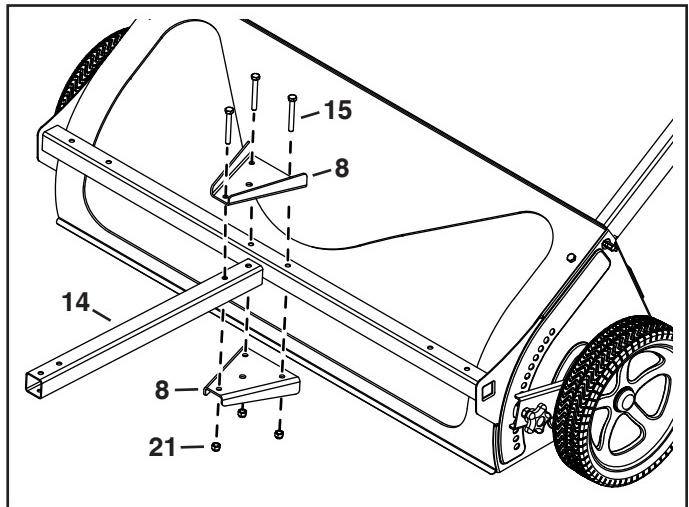

FIGURE 4
5. Attach the drawbar (14) to the sweeper by fastening a drawbar bracket (8) above and below the drawbar with three 5/16" x 2-1/2" hex bolts (15) and 5/16" nylock nuts (21). See figure 4.